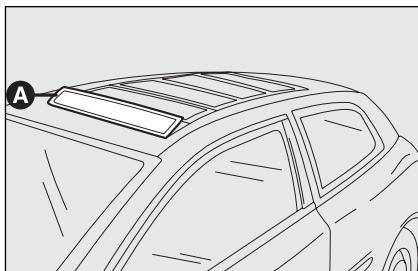

fig. 78
- First knob click: rotary movement of the first blade until reaching position **A-fig. 78**; the curtain slides lined up to the second blade.